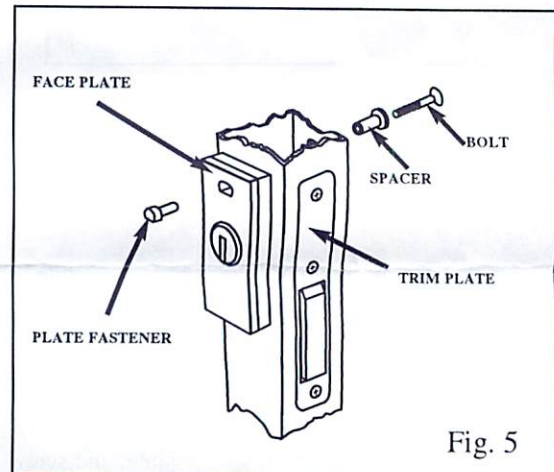

Fig. 5
13. Rotate face plate into position. Insert plate fastener (item 1) and fasten with flanged spacer (item 7) and long mounting bolt (item 8). Tighten with hex wrench. See Fig. 5.